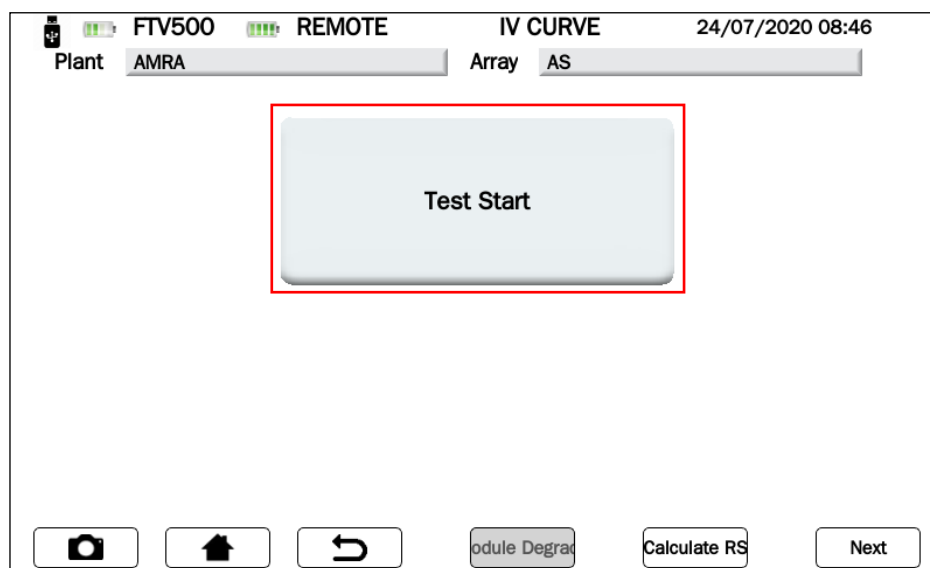

Figure 14.7.3-10 a Confirming the start of the I-V curve test
**IMPORTANT:** After synchronization and the test started, it is possible that the string has been connected by inverting the positive and negative poles. In this case, an error message is displayed asking to repeat the measurement, (Figure 14.7.3-10 b).